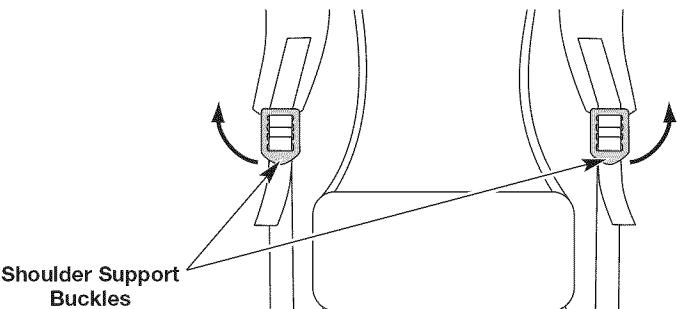

Fig. 11
1. Pull the tabs on the bottom of the shoulder support buckles up to loosen the shoulder supports (Fig. 11).